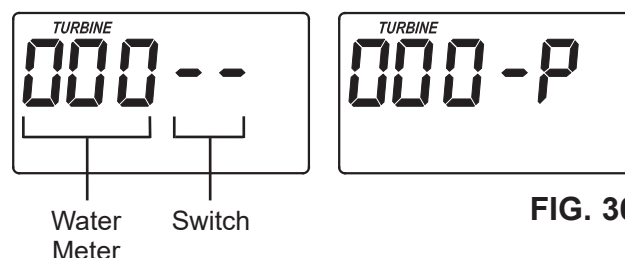

FIG. 36
1. Press and hold for 3 seconds the SELECT button, until one of the screens shown in Figure 36 is displayed.